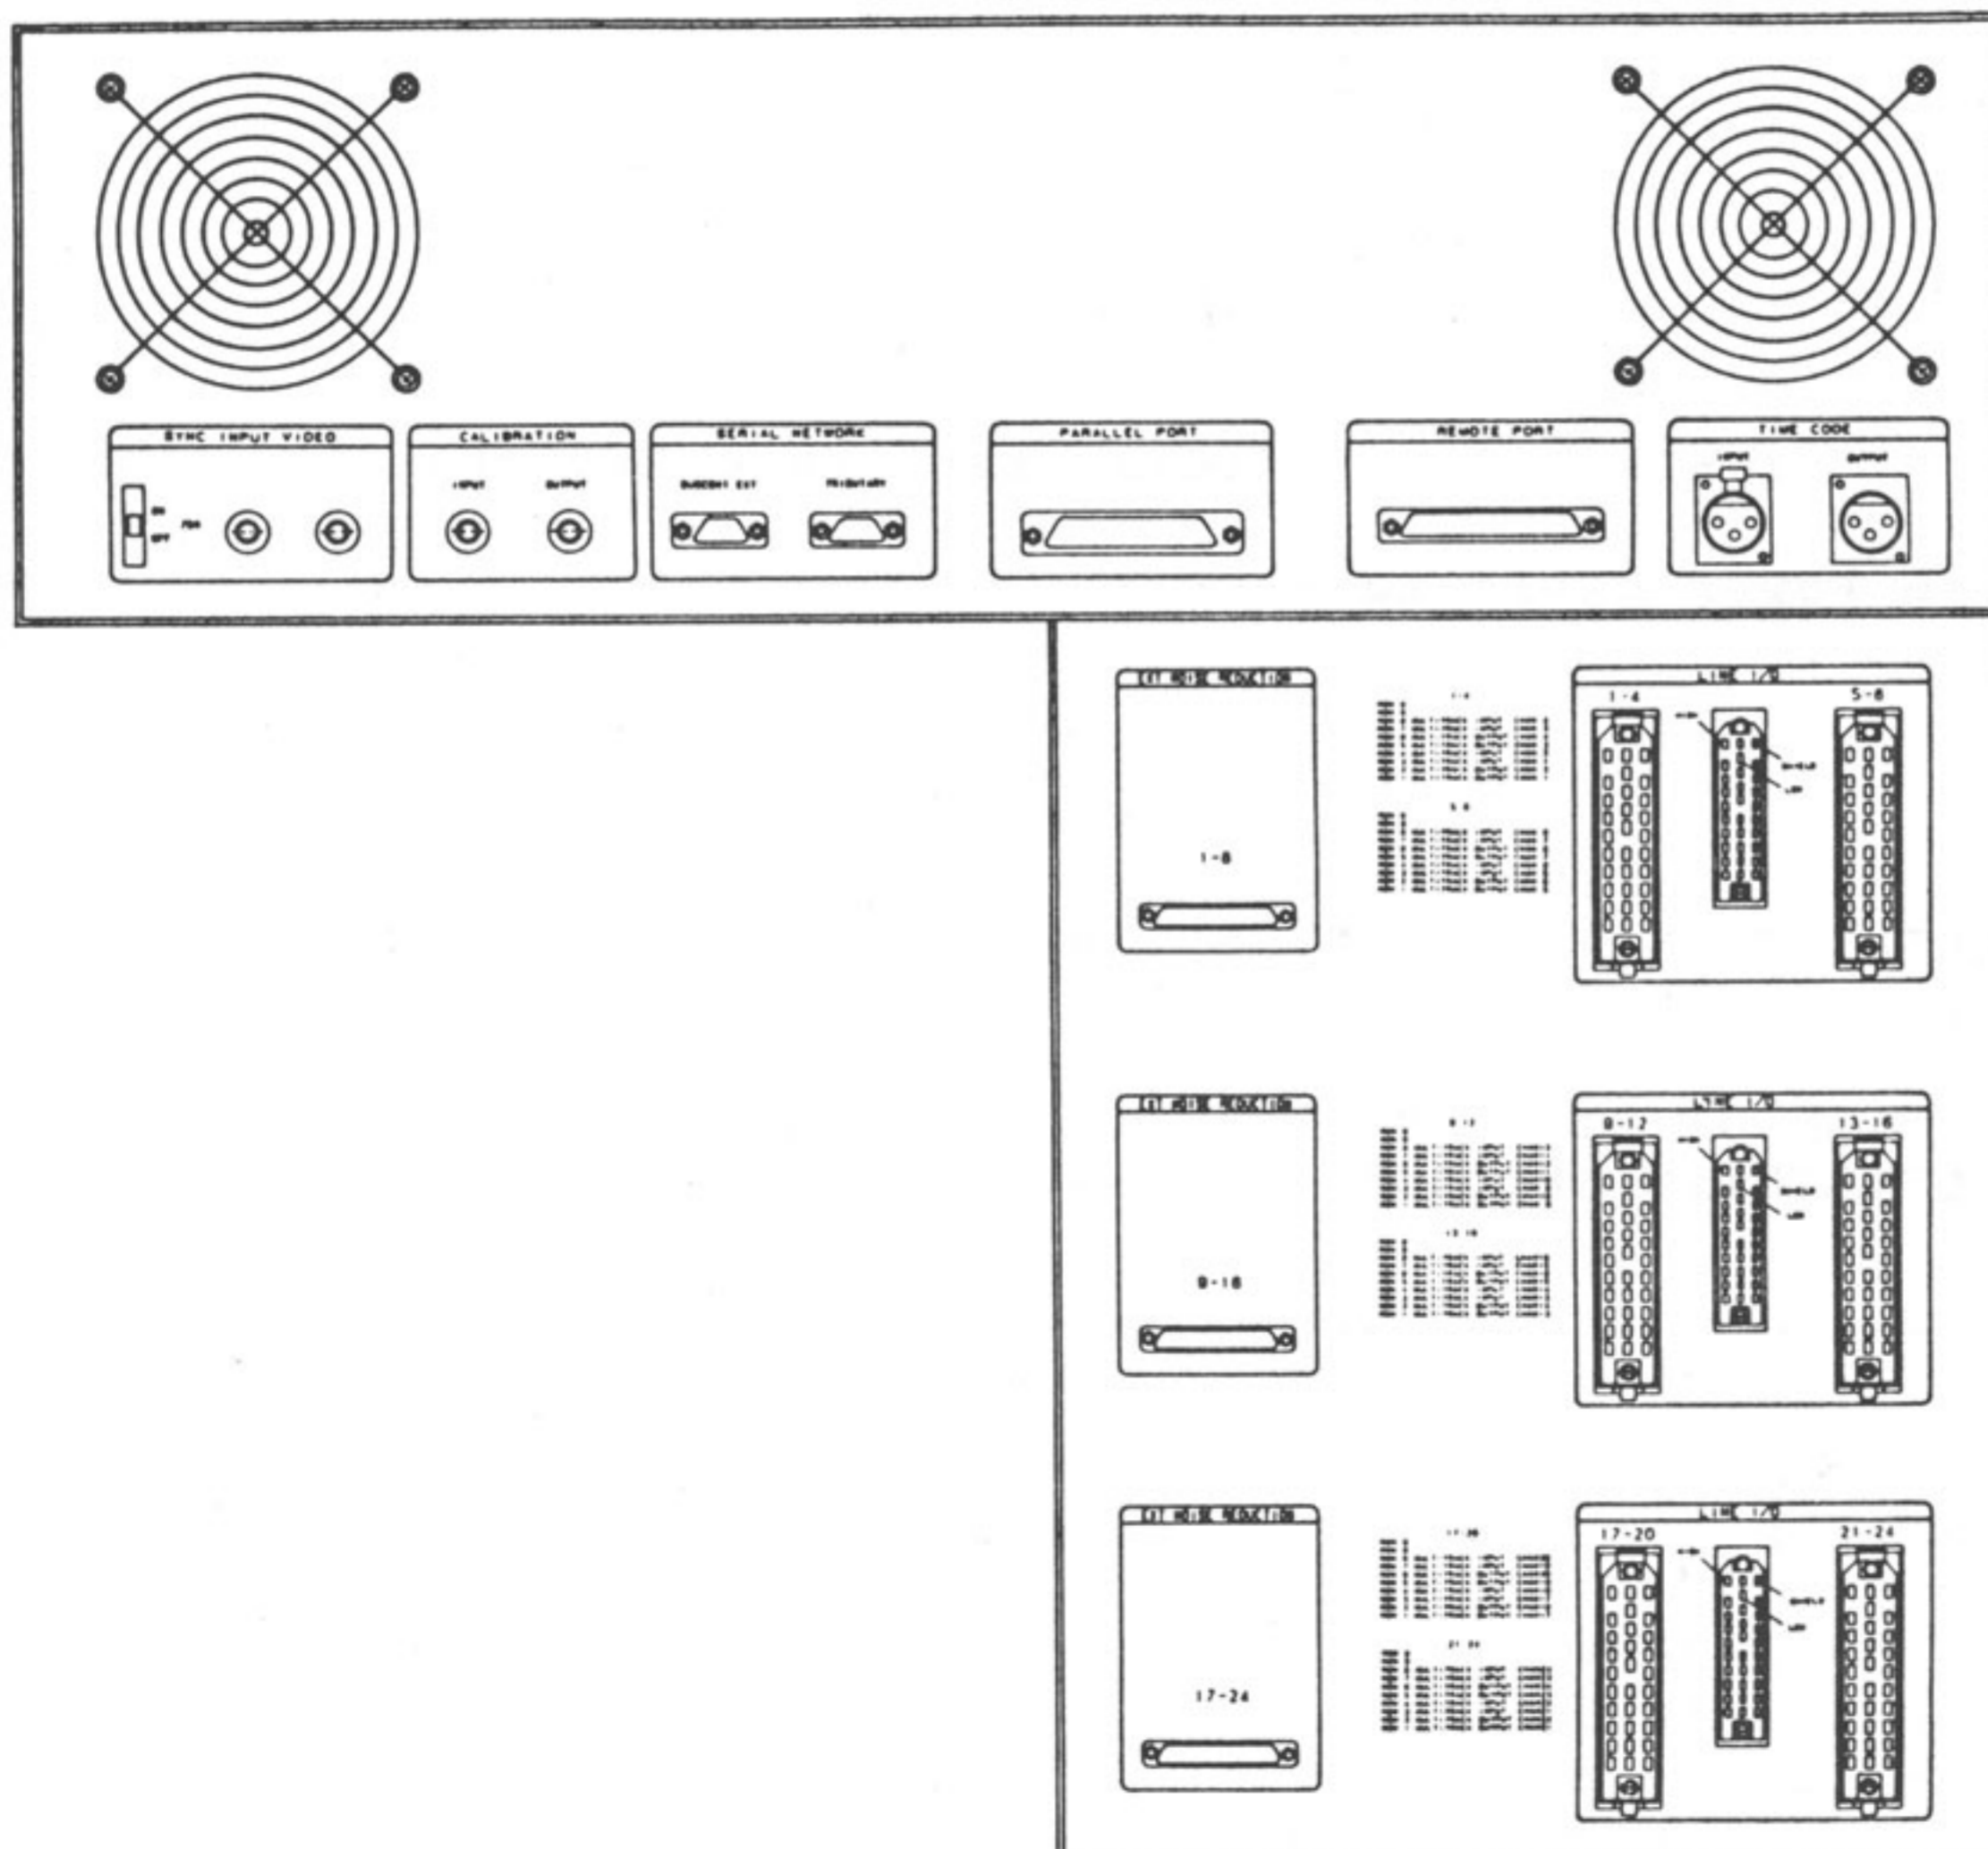

Figure 2-7. External Connections
A brief description of all of the external connections is given in the following paragraphs, so that wiring plans and cable lengths may be determined before the machine is installed. These include Line I/Os (Inputs/Outputs), External Noise Reduction (NR), Sync Input Video, Calibration I/O, Serial Network, Parallel Port, Remote Control Port, and LTC I/O, as shown in Figure 2-7.